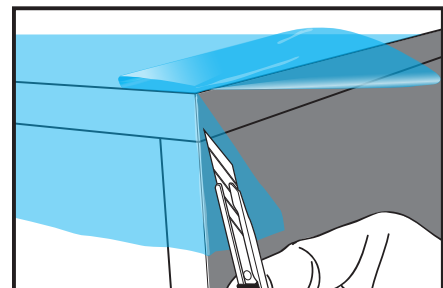

Figure 09
- › Cut any excess matter leaving approx. 1 mm - 2 mm (0.05 in - 0.1 in) from the edge, (FIG. 09) then cover the adjacent edge.